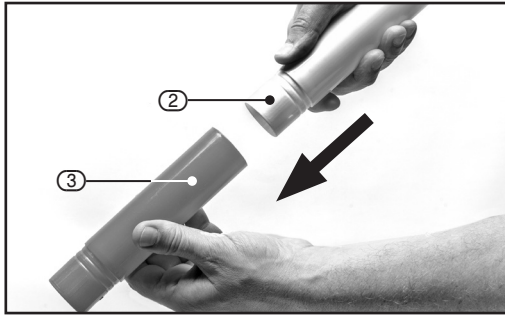

FIG. 1
4.1 ASSEMBLING THE POSTS – FIG1.